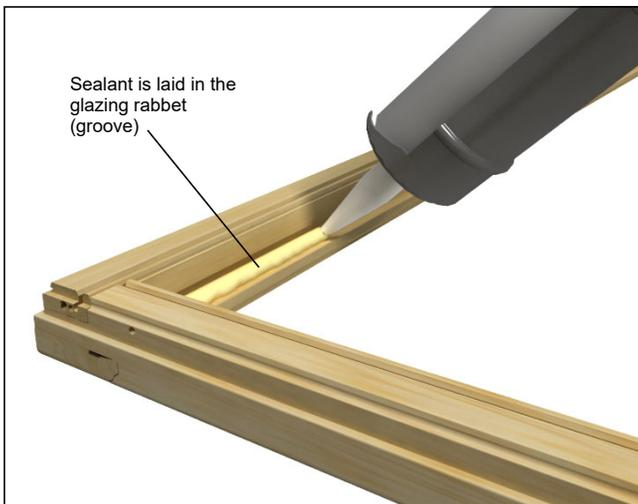

Figure 1
2. Lay a uniform 3/16" (5) bead of sealant on the glazing rabbet around the entire perimeter of the unit. See figure 1.